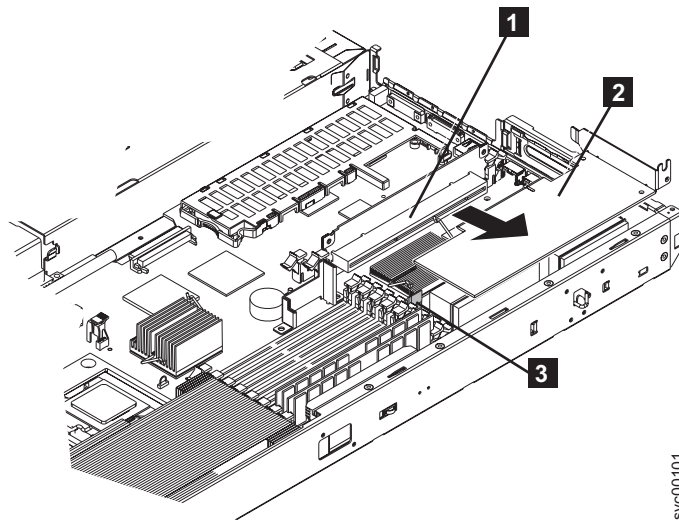

Figure 113. SAN Volume Controller 2145-8F2 riser card and low profile adapter
- b. Hold the blue adapter support away from the card and pull it away from the edge connector on the riser card assembly. See Figure 113.